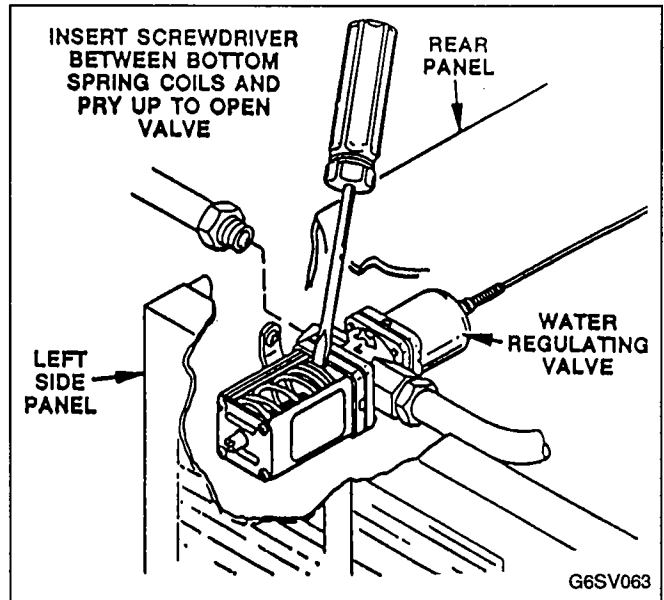

FIGURE 65. MANUALLY OPENING WATER REGULATING VALVE
3. Pry open water regulating valve by inserting large standard screwdriver between bottom spring coils of valve. Pry spring upward to open valve, Figure 65.